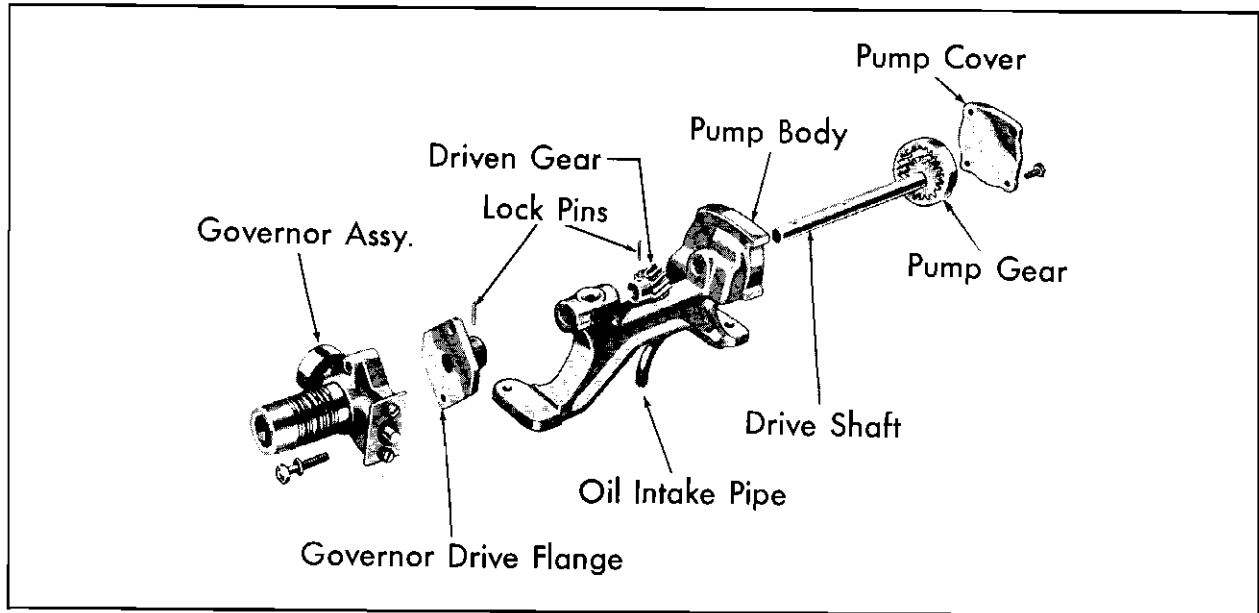

Fig. 14-53 Rear Oil Pump and Governor - Disassembled
2. Remove two screws and lock washers holding governor body to governor drive flange. Remove governor assembly from drive flange. Fig. 14-53.